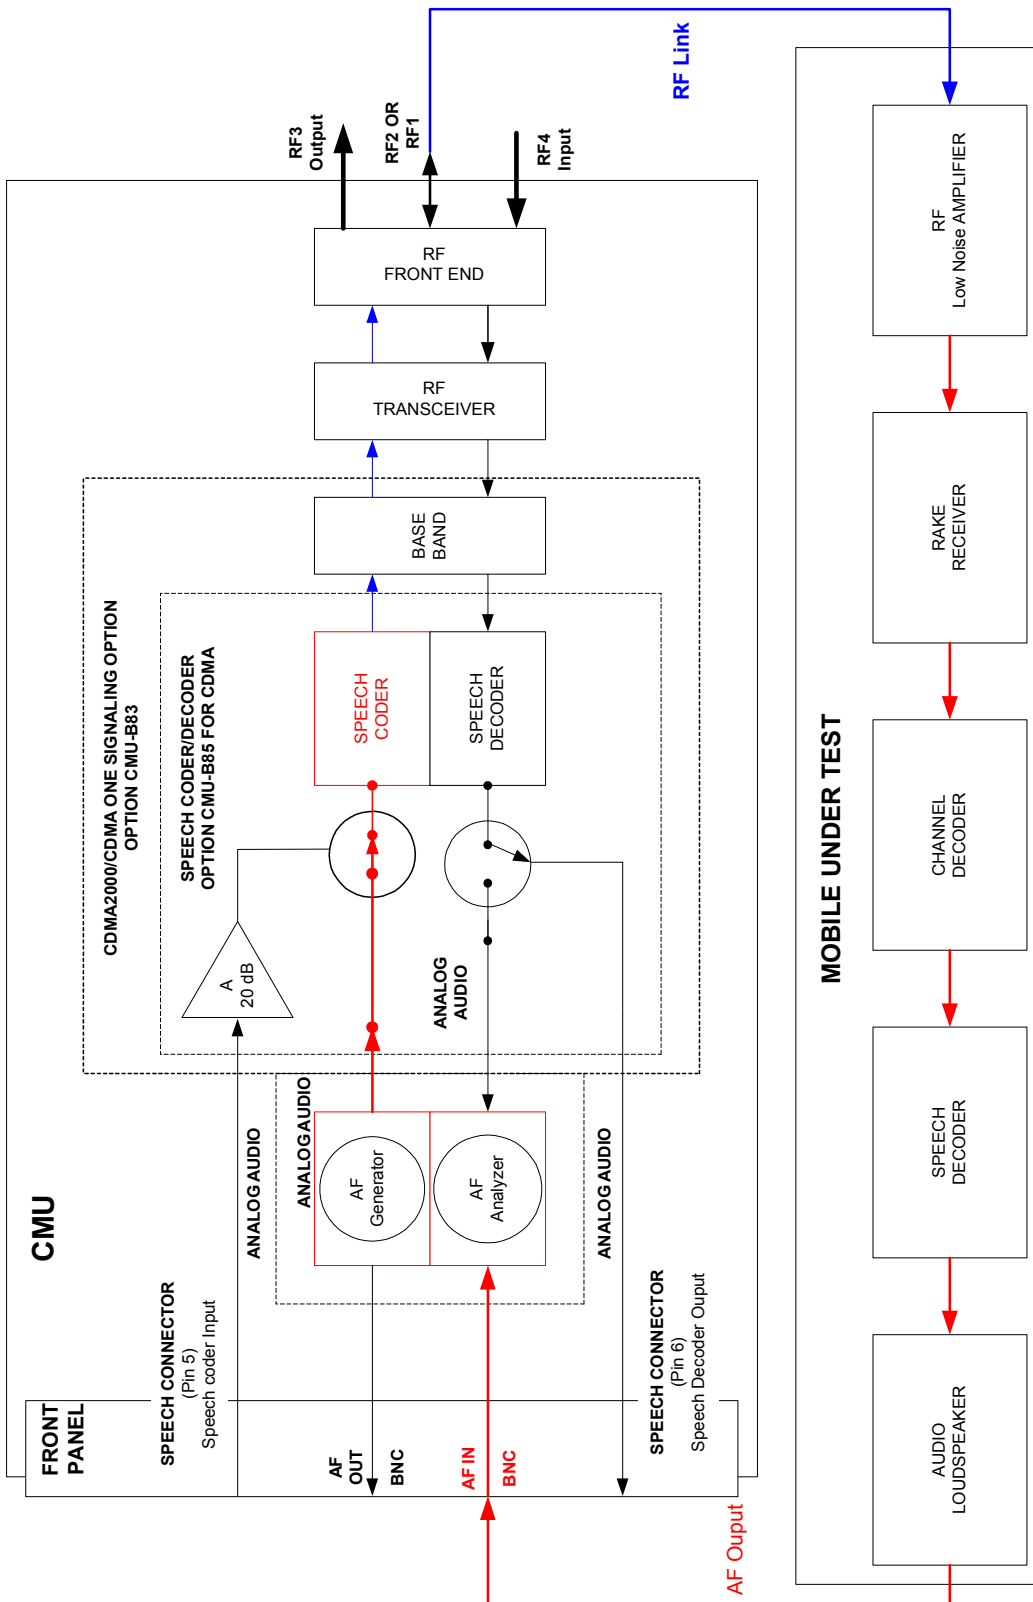

Figure 4-80 Forward Link Audio Test Setup
- Figure 4-80 illustrates the setup to test audio via the forward link.